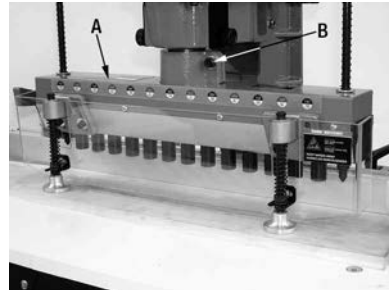

FIGURE 1
This Hinge Boring Head Attachment is designed to fit King 13-Spindle Line Boring Machine (model KC-1300BM). The main 13-spindle boring head (A) Fig.1 and the link-bar (A) Fig.2 must be removed.
- 1) Loosen cap screw (B) Fig.1 and slide the 13-spindle boring head (A) assembly down to remove it.